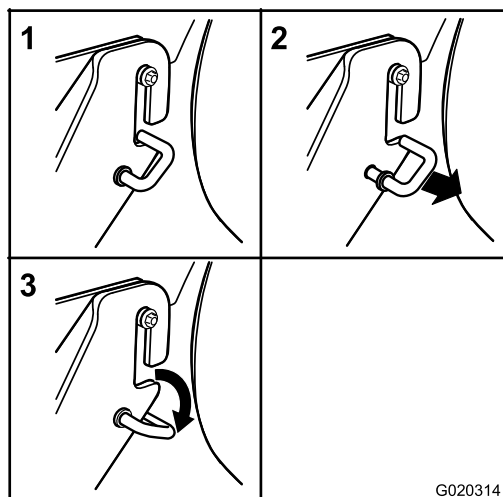

Figure 71
1. Move the spring loaded J-hooks out of the slot in the rear hanger brackets on both sides of the deck (Figure 71).